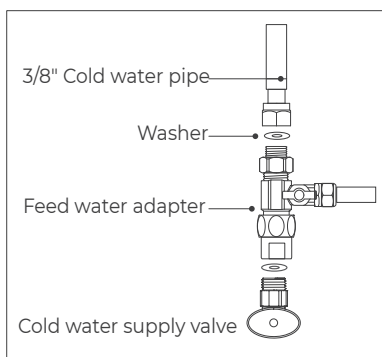

Figure 5
c. Twist the feed water adapter onto the cold water supply valve (with its washer) and tighten it with an adjustable wrench (**Figure 5**).